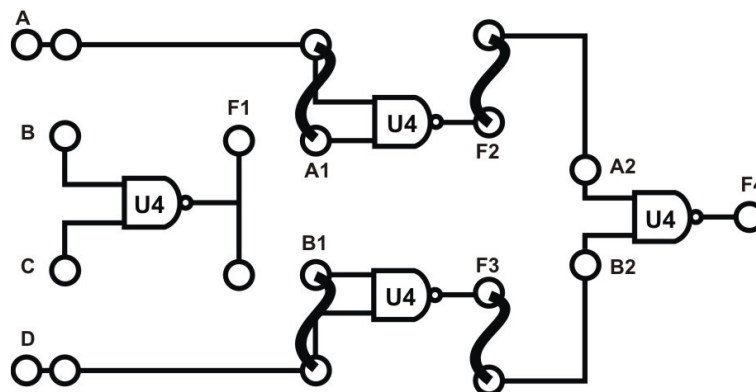

Figure 1.15: build OR gate using NAND gate using kits.
- g) From the above equation ( $F''$ ) we can see that we can build OR gate using one NAND and two NOT gates. Insert connection clips according to Figure 1.15 below. Connect A to SW0; D to SW1; connect A with A1; and D with B1 and F2 to A2; F3 to B2 then connect the output F4 with L1. Follow the input sequences given below, and record the output states in Table 1.10.